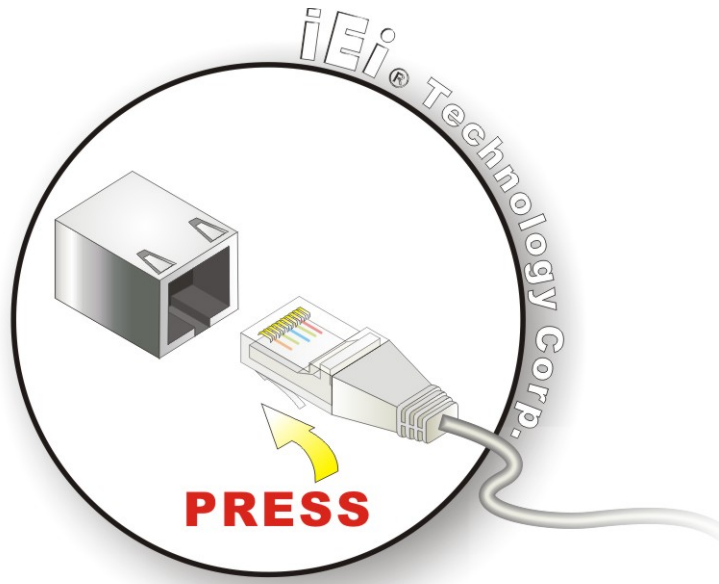

Figure 3-19: LAN Connection
Step 2: Align the connectors. Align the RJ-45 connector on the LAN cable with one of the RJ-45 connectors on the ECN-381B. See **Figure 3-19**.